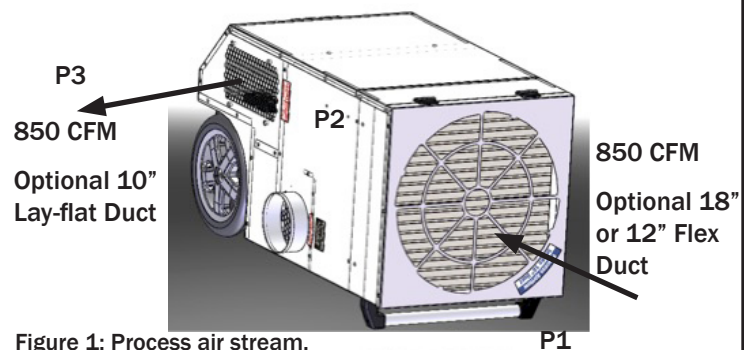
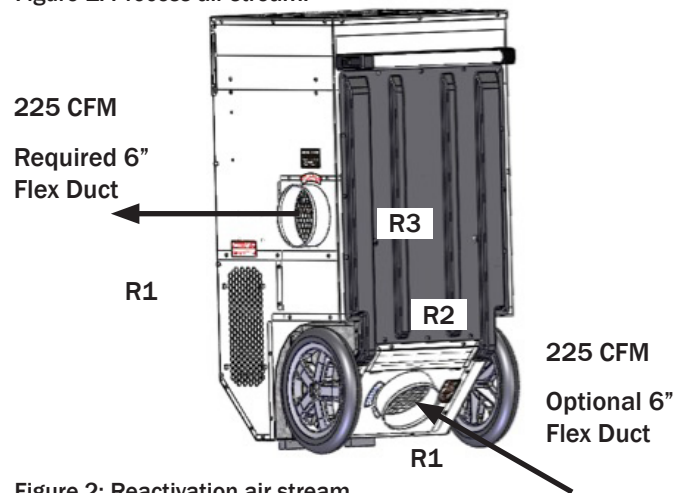

Figure 1: Process air stream.
Figure 2: Reactivation air stream.
Your Quest 850D uses two separate air streams – Process (Fig. 1) and Reactivation (Fig. 2). Moisture is transferred from the incoming process air to the outgoing reactivation air. It is exhausted from the structure as water vapor, so there is no drain hose or condensate pump.
**Process Air Stream (Fig. 1):**
**Reactivation Air Stream (Fig. 2):**
The Quest 850D can be transported and stored either upright or horizontally as shown in Figures 1 and 2 (on page 5). There is a storage compartment under the process air filter, which is large enough to store the power cords and additional small items that you may require on your job site.
When inflated, this ducting forms a 10"-diameter tube. It attaches to the 850D by means of a 12"x 6" wire rectangle. To attach layflat ducting to the process exhaust opening (Fig. 1, P3), feed the duct end through the collar and roll the end outward so that it overlaps the outside of the collar. Snap the collar inside the screw posts, then slide the collar down against the center post. See Figure 8